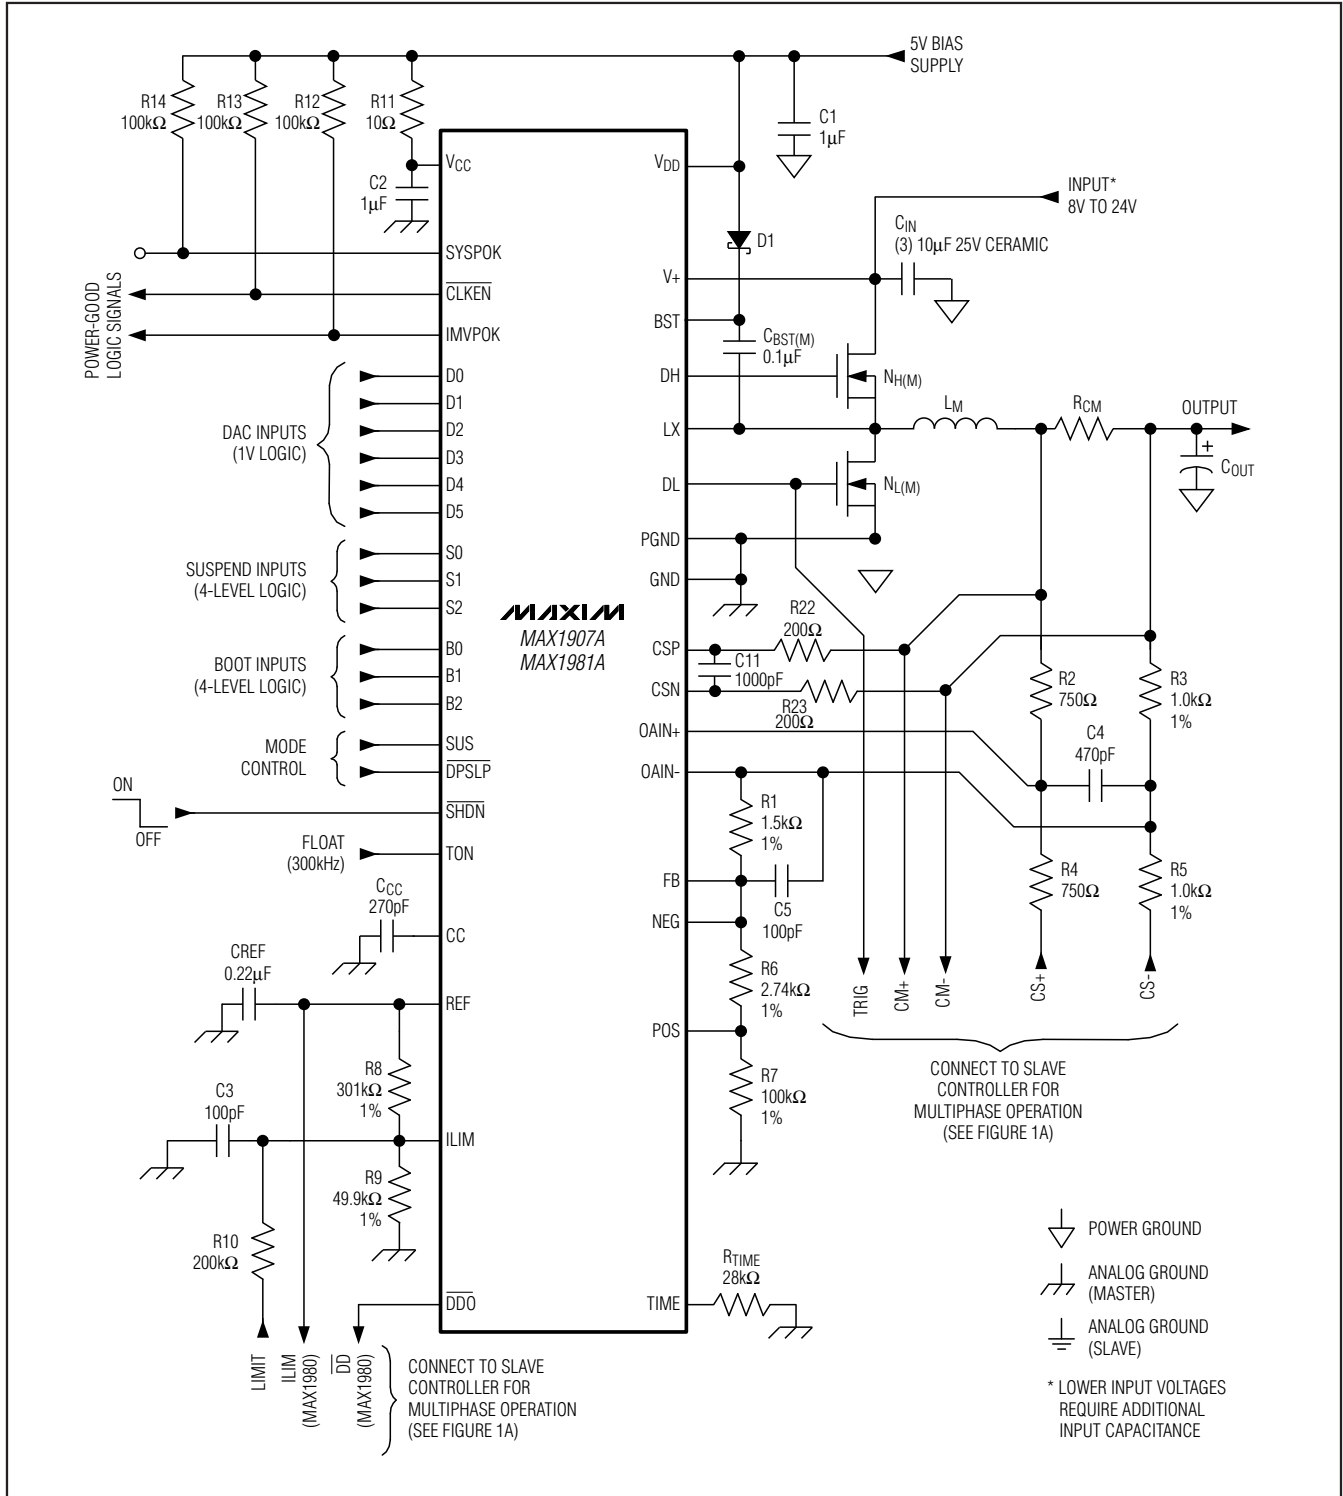
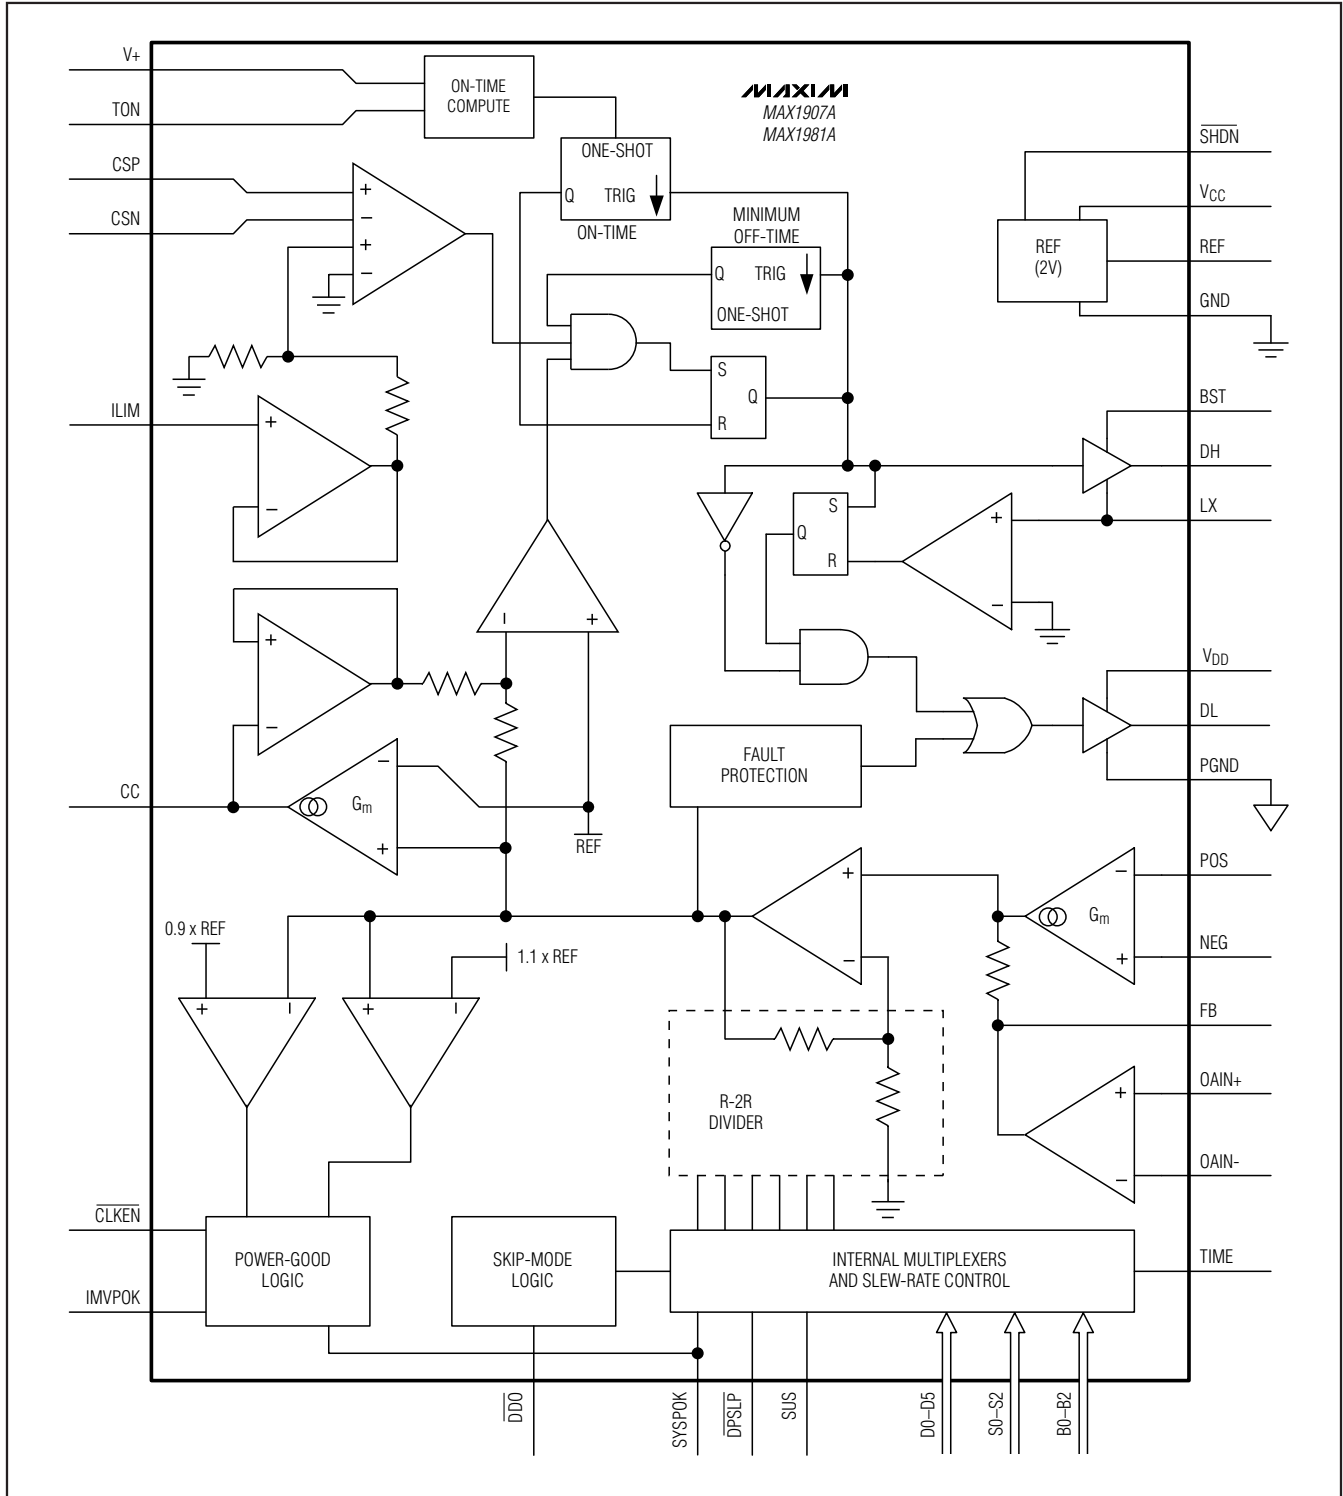

Figure 1. Standard Multiphase Application Circuit
Figure 2. MAX1907A/MAX1981A Functional Diagram
(Circuit of Figure 1, $V_+ = 12V$, $V_{CC} = V_{DD} = 5V$, B0–B2 set to 1.276V, S0–S2 set to 0.748V.)
(Circuit of Figure 1, $V_+ = 12V$, $V_{CC} = V_{DD} = 5V$, B0-B2 set to 1.276V, S0-S2 set to 0.748V.)
Table 1. Component Selection for Standard Multiphase Applications (Figure 1)
The Quick-PWM control architecture is a pseudo-fixed-frequency, constant-on-time, current-mode regulator with voltage feed-forward (Figure 2). This architecture relies on the output filter capacitor's ESR to act as the current-sense resistor, so the output ripple voltage provides the PWM ramp signal. The control algorithm is simple: the high-side switch on-time is determined solely by a one-shot whose period is inversely proportional to input voltage and directly proportional to output voltage. Another one-shot sets a minimum off-time (400ns, typ). The on-time one-shot is triggered if the error comparator is low, the low-side switch current is below the current-limit threshold, and the minimum off-time one-shot has timed out.
Two transconductance amplifiers provide a fine adjustment to the output regulation point (Figure 2). One amplifier forces the DC average of the feedback voltage to equal the VID DAC setting. The second amplifier is used to create small positive or negative offsets to the feedback voltage, using the POS and NEG pins.
The POS/NEG amplifier is used to add small offsets to the VID DAC setting in deep-sleep mode ($\overline{DPSLP} = \text{low}$). The offset amplifier is summed directly with the feedback voltage, making the offset gain independent of the DAC code. This amplifier has the ability to offset the output by $\pm 200\text{mV}$. To create an output offset, bias POS and NEG to a voltage (typically V_{OUT} or REF) within their 0 to 2V common-mode range, and offset them from one another with a resistive divider (Figure 1). If V_{POS} is higher than V_{NEG} , then the output is shifted in the positive direction. If V_{NEG} is higher than V_{POS} , then the output is shifted in the negative direction. The output offset equals the voltage difference from POS to NEG.
In skip mode (SUS = high, or \overline{DPSLP} = low), an inherent automatic switchover to PFM takes place at light loads (Figure 3). This switchover is effected by a comparator that truncates the low-side switch on-time at the inductor current's zero crossing. The zero-crossing comparator senses the inductor current across the low-side MOSFET. Once $V_{LX} - V_{PGND}$ drops below 4mV (typ), the comparator forces DL low (Figure 2). This mechanism causes the threshold between pulse-skipping PFM and non-skipping PWM operation to coincide with the boundary between continuous and discontinuous inductor-current operation. The load-current level at which PFM/PWM crossover occurs, $I_{LOAD(SKIP)}$, is equal to 1/2 the peak-to-peak ripple current, which is a function of the inductor value (Figure 4). For a battery range of 8V to 24V, this threshold is relatively constant, with only a minor dependence on battery voltage:
The current-limit circuit employs a unique "valley" current-sensing algorithm that uses a current-sense resistor between CSP and CSN as the current-sensing element (Figure 1). If the current-sense signal is above the current-limit threshold, the PWM is not allowed to initiate a new cycle (Figure 2). Since only the "valley" current is actively limited, the actual peak current is greater than the current-limit threshold by an amount equal to the inductor ripple current. Therefore, the exact current-limit characteristic and maximum load
The inverting (OAIN-) and noninverting (OAIN+) inputs are used to differentially sense the voltage across the voltage-positioning sense resistor. The op amp's output is internally connected to the regulator's feedback input (FB). The op amp should be configured as a noninverting, differential amplifier as shown in Figure 1. The voltage positioning slope is set by properly selecting the feedback resistor connected from FB to OAIN- (see the *Setting Voltage Positioning* section). For applications using a slave controller, additional differential input resistors (summing configuration) should be connected to the slave's voltage-positioning sense resistor (Figure 1). Summing together both the master and slave current-sense signals ensures that the voltage-positioning slope will remain constant when the slave controller is disabled.